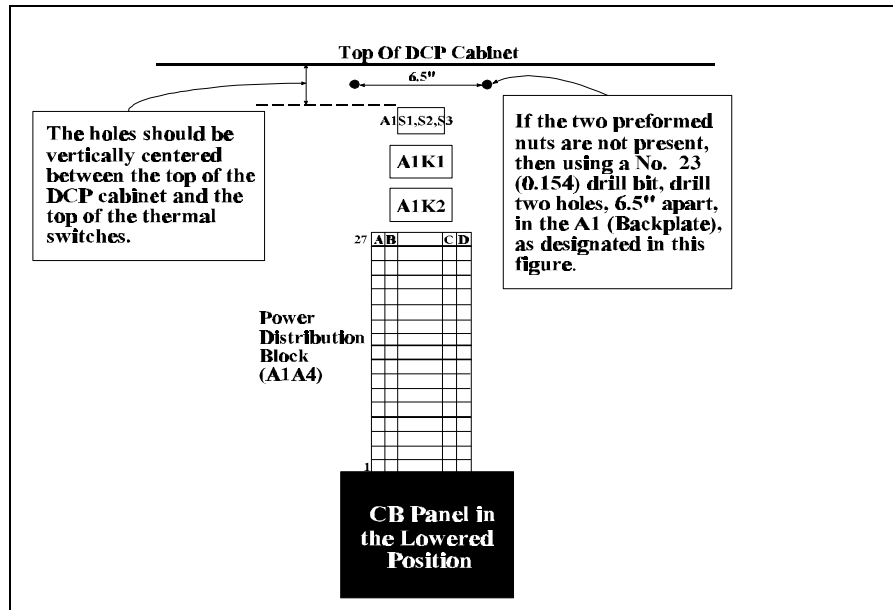

Figure 2 DCP SSTDR Mounting Location within DCP Cabinet
4. Above the thermal switches (2A1S1, S2, S3), there may be two preformed nuts in the A1 backplate. If so, proceed to step 6, if not, proceed with the next step (Refer to figure 2).
5. Using a drill bit (5/32-inch) and the Din Rail as a template, drill two holes in the A1 backplate, as designated in figure 2, to install the 2A1A9 assembly.
6. Install the DCP SSTDR assembly, 2A1A9, behind the circuit breaker rack and above the Power Distribution Block (PDB), 2A1A4, as shown in figure 2. *If the preformed nuts are installed, use the two machine screws, flat washers, and lock washers. If the holes needed to be drilled, use the two self-tapping screws, flat washers, and lock washers.*